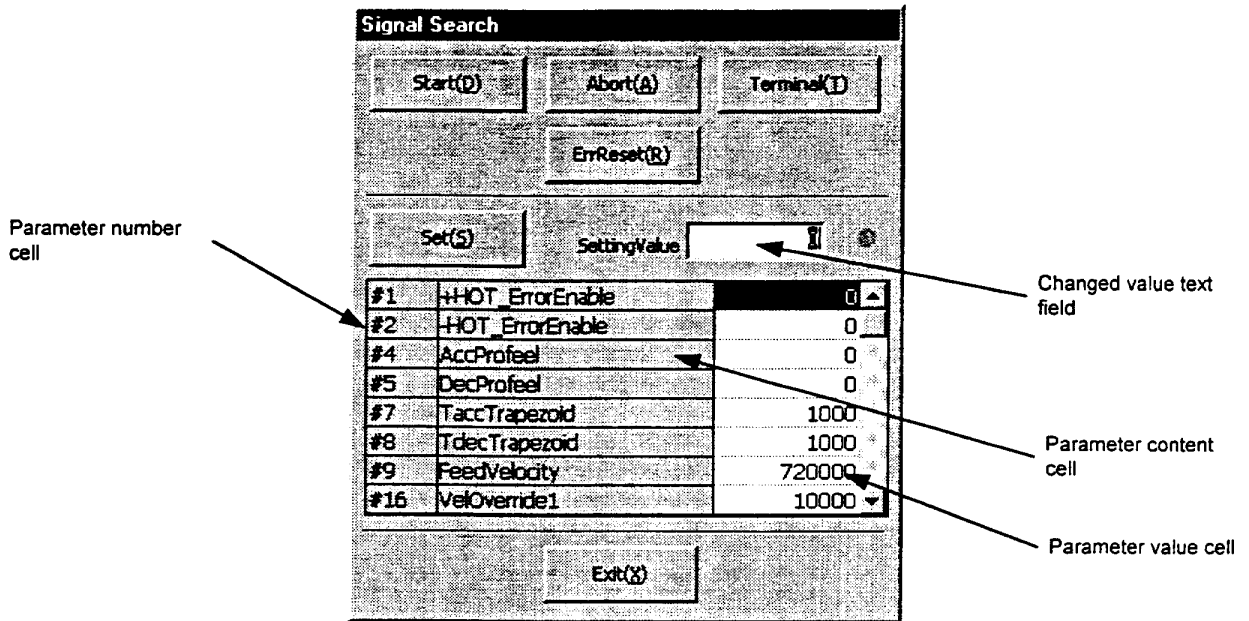

Figure 7.22 "Signal Search" dialog box
Click "*SignalSearch (S)*" in the "DriveMenu" dialog box to display the "Signal Search" dialog box (see Figure 7.22). If the connection with the driver is established, the current values of the related parameters are read and can be edited.